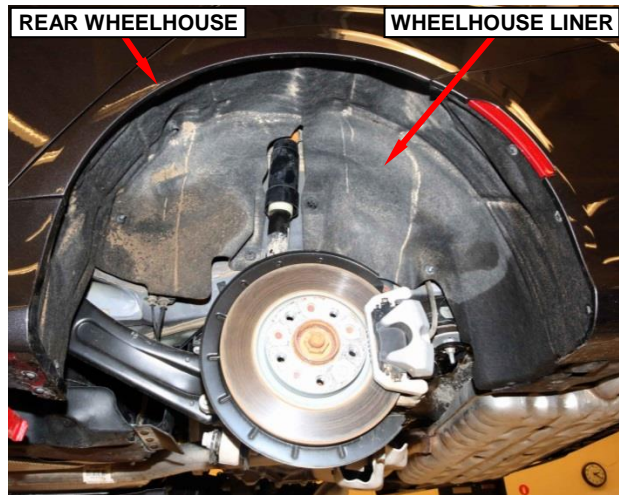

Figure 1 – Rear Wheelhouse Liner
3. Remove and save the rear left side and rear right side wheelhouse fasteners and liners (Figure 1).
24. Install the left and right side rear wheelhouse liners and fasteners. Tighten the fasteners securely (Figure 1).